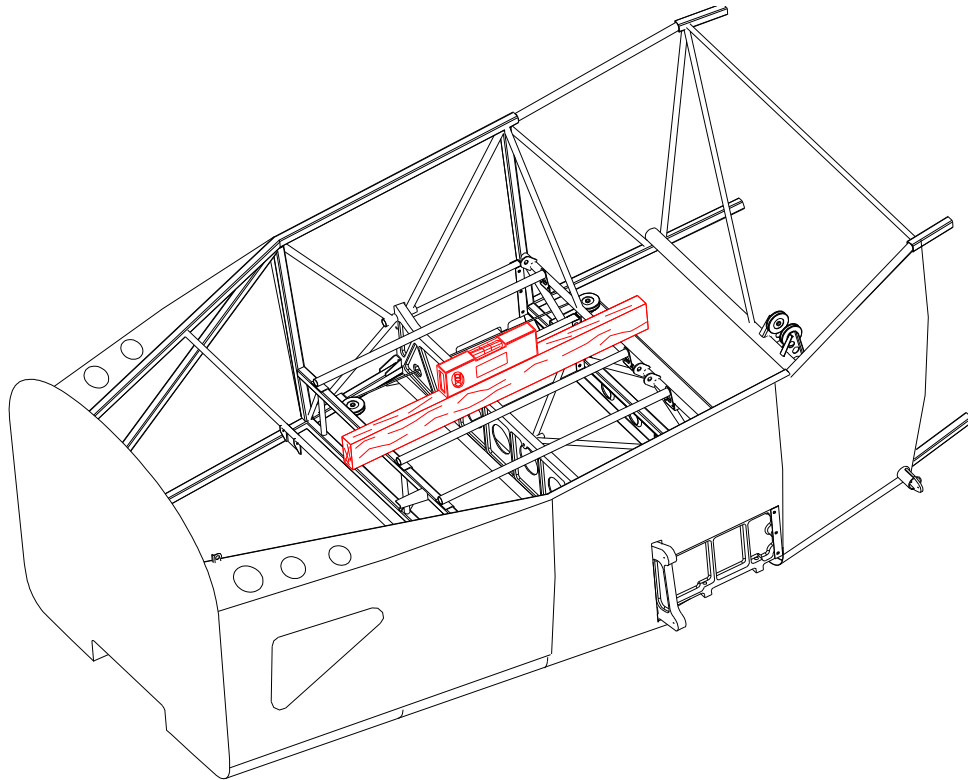

FIGURE B-2 *LONGITUDINAL LEVELLING*
- Place longitudinally a spirit or water level over the two supporting trusses using, if necessary, a straight piece of wood as indicated into figure B-2.